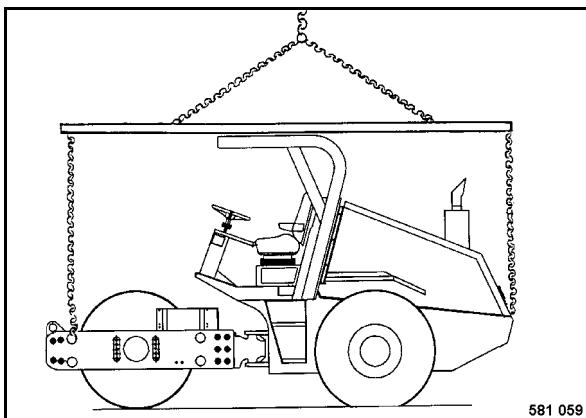

Fig. 55
- For lifting use also the four lifting eyes (Fig. 55) and appropriate lifting gear.